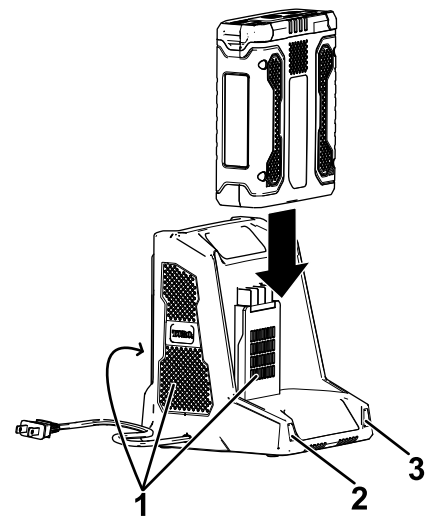

Figure 11
5. Slide the battery pack into the charger until it is fully seated (Figure 11).